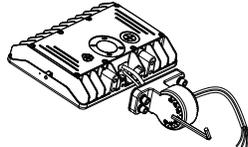

Figure 3-2
- Pass the input cable of the fixture through the Slip Fitter Part A and fix it to the fixture with Pivot Bolts. (Figure 3-2)